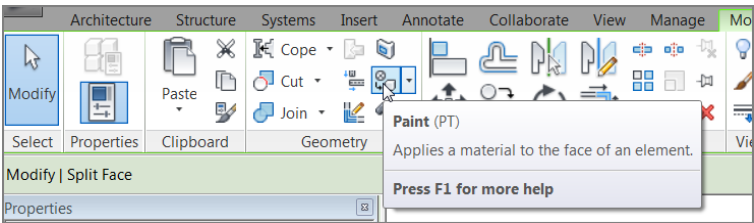

FIGURE 6.43: The Paint button on the Geometry panel
- 1. On the Geometry panel of the Modify | Split Face tab, click the Paint button, as shown in Figure 6.43.